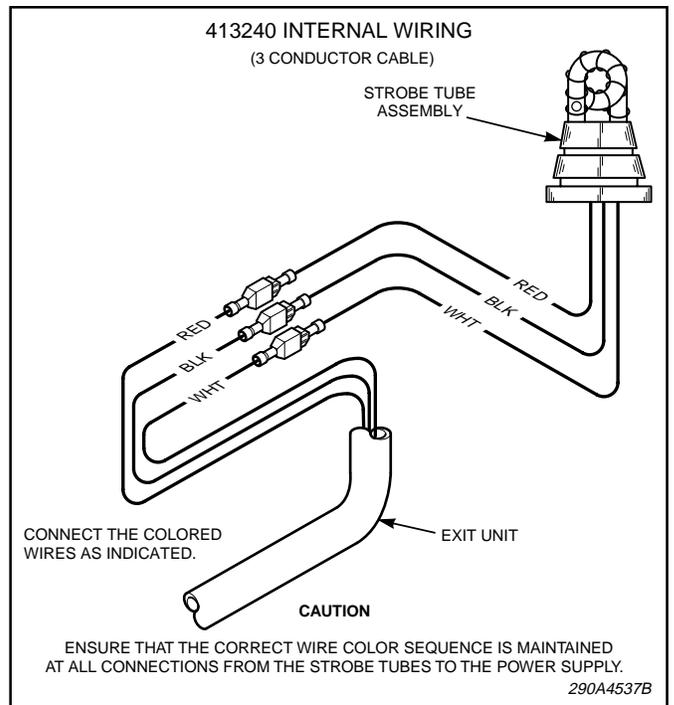

Figure 5.
g. See figure 5. Plug in the replacement strobe tube. Reassemble the unit.
Figure 5 shows the 413240's internal wiring.